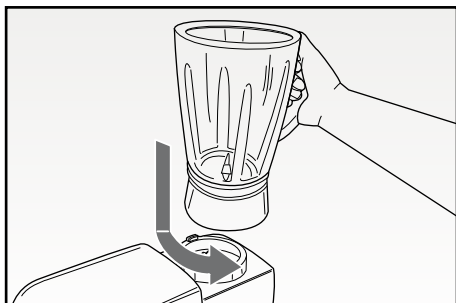

Fig. 9
- Insert the blender (I) onto the appliance body (G) and rotate it counter-clockwise until it locks (Fig. 9).